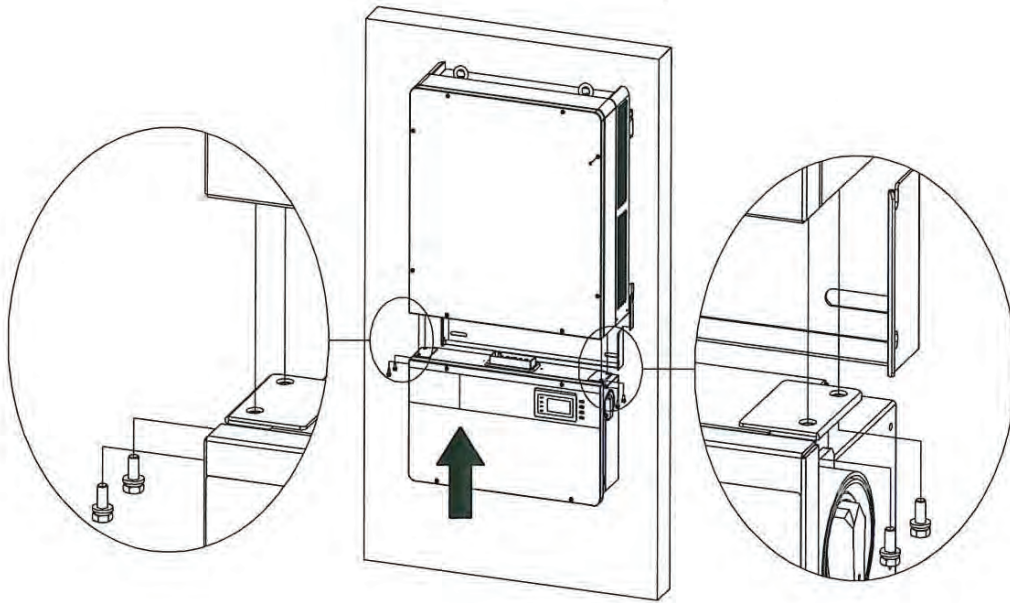

Figure 3-11 Installation of the wiring box
③ Insert the wiring box to the main housing, and use M6x12 screws (4 pcs) to attach the wiring box to the inverter housing. (see Figure 3-11)